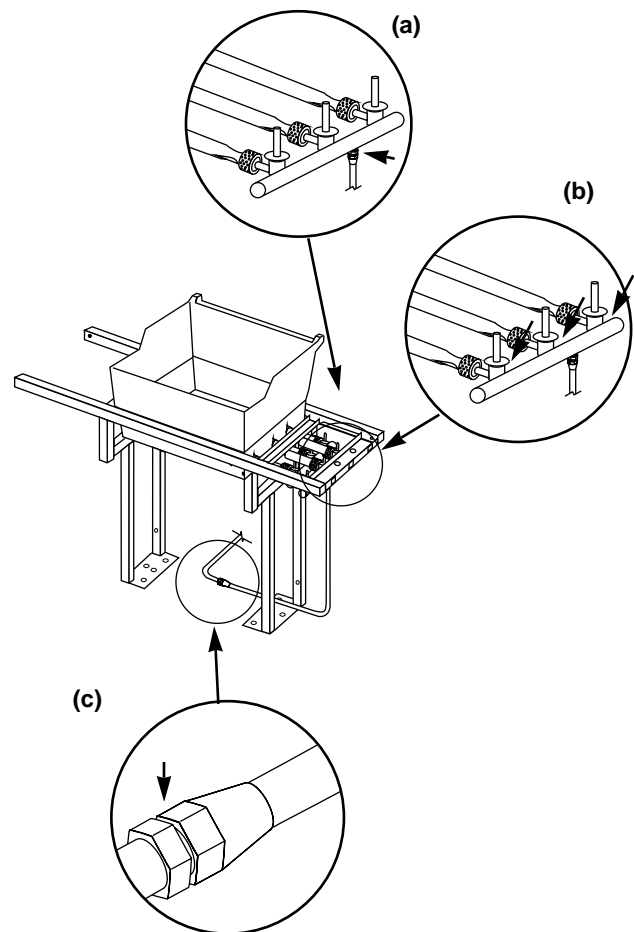

Figure 22
a) Gas supply line to manifold connection. Figure 22 (a).
b) Valves to manifold connections. Figure 22 (b).
c) Barbecue gas supply line to natural gas supply connection. Figure 22 (c).